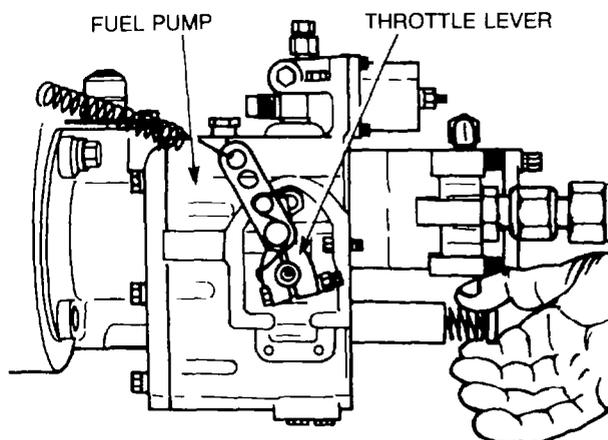

Figure 72 — Governor Cut Off Speed — Adjustment
- n. To set the governor cut off speed, open the fuel pressure gauge valve on the test bench and ensure that the throttle lever is in the full fuel position, then increase the pump speed to the point where the fuel pressure decreases by one psi. The pump stand speed should be 2130 to 2150 rpm. If the speed is not within specification either add or remove shims, from between the governor spring and the spring retainer, to increase or decrease the cut off speed respectively (see Fig. 72).